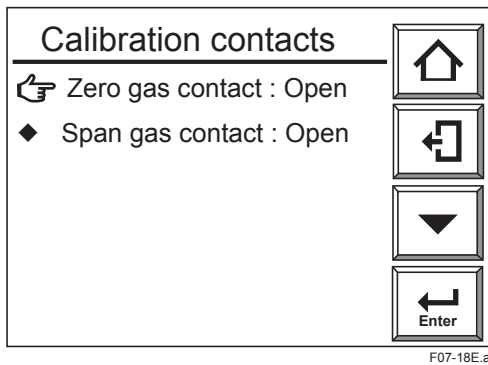

Figure 7.18 “Calibration contacts” Check Panel Display
- (1) Referring to Subsection 7.11.1, display the contact check display.
- (2) Select the “Calibration contacts” to display the panel display as Figure 7.18 shows.
- (3) Open the “Zero gas contact” and the “Span gas contact”. This will help check the automatic calibration unit and wiring connections.